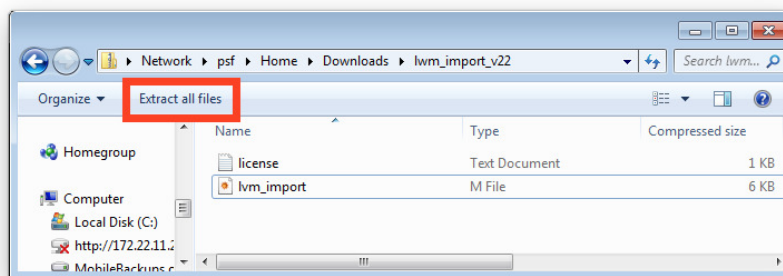

Figure 03.5: extracting files from the `lvm_import_v22.zip` archive.
- 2. Extract the contents of the `.zip` archive. Do this by navigating to the file, right-clicking it, and selecting `Extract all...` or “opening” it (viewing its contents in Windows Explorer) and clicking the button `Extract all files`, as shown in Figure 03.5.